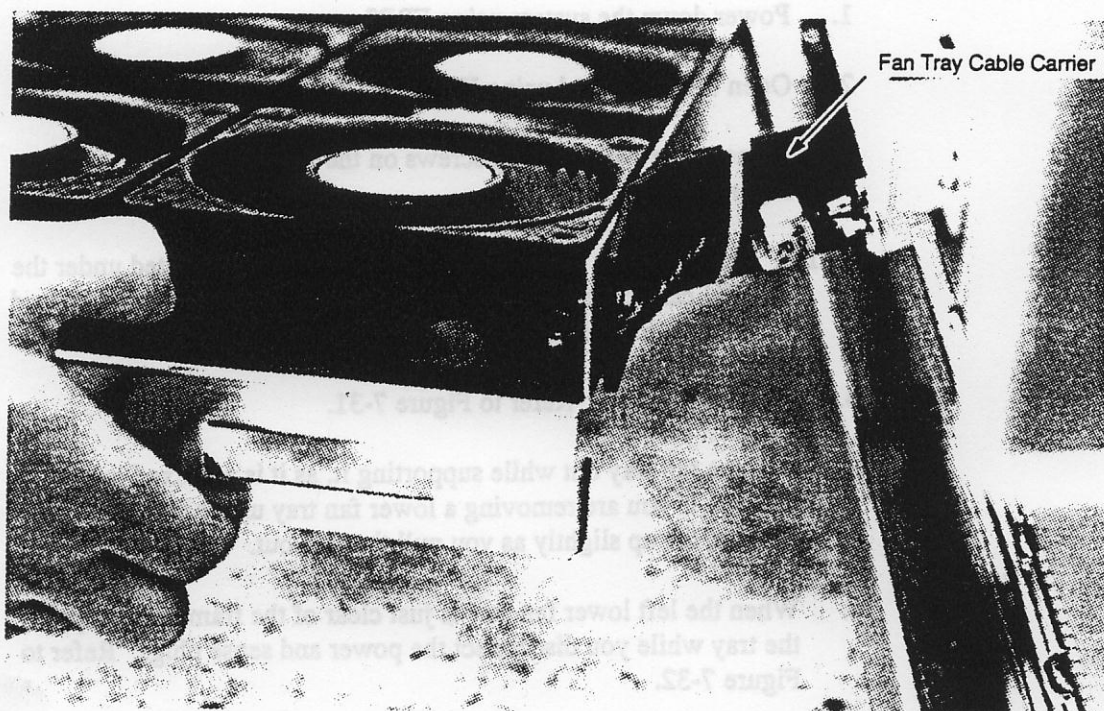

Figure 7-32. Lower Fan Tray Cable Carrier
6. When the left lower fan tray is just clear of the frame rest, support the tray while you disconnect the power and sense plugs. Refer to Figure 7-32.
7. Remove the screw for the cable carrier. The cable ties may have to be clipped to allow cable removal. The tray should now be clear of the frame. Refer to Figure 7-32.